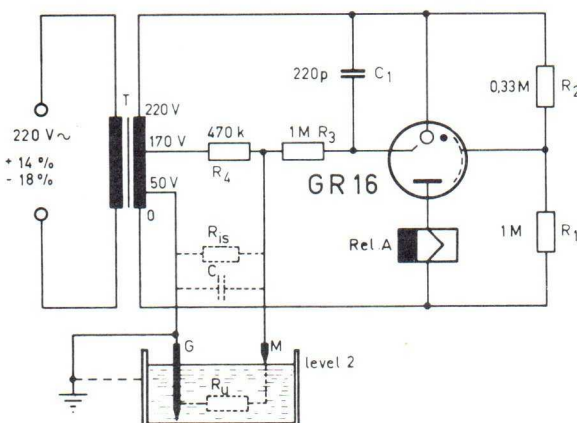

Fig. 1
3.1.1 Baised-off circuit, Fig. 1
The circuit operates in a manner exactly opposite to that of Fig.1.